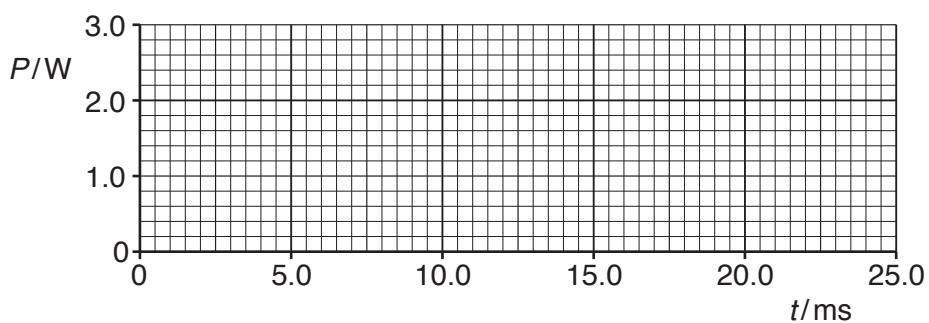

Fig. 9.3
- (ii) On Fig. 9.3, sketch the variation with time t of the power P dissipated in the resistor for $t = 0$ to $t = 22.5\text{ms}$.